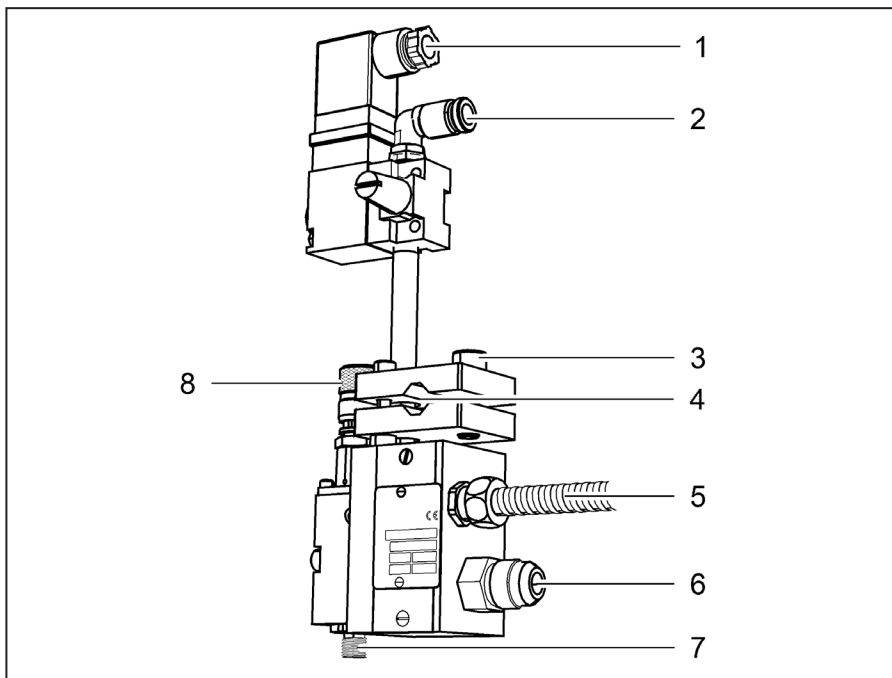

Bild 2: Connections
1. Loosen the screw (fig. 2/3) with the hexagon socket wrench and remove it.
2. Move the opening (fig. 2/4) of the clamp over the mounting rod (7 ... 12 mm Ø).
4. Replace and tighten the screw (fig. 2/3).
3. Attach the plug of the control cable for the solenoid valve (fig. 2/1).
5. Connect the plug-in connector at the end of the cable (fig. 2/5) with the mating plug on the heatable hose.
Connect the compressed air supply line (quick release coupling PK 6) with the connection (fig. 2/2).
3. Screw the heatable hose to the connection (fig. 2/6) with the open-end wrench (SW 17 or SW 19) while using the open-end wrench SW 18 on the application head to lock the screw.
- setting of knurled screw for stroke adjustment (fig. 2/8)